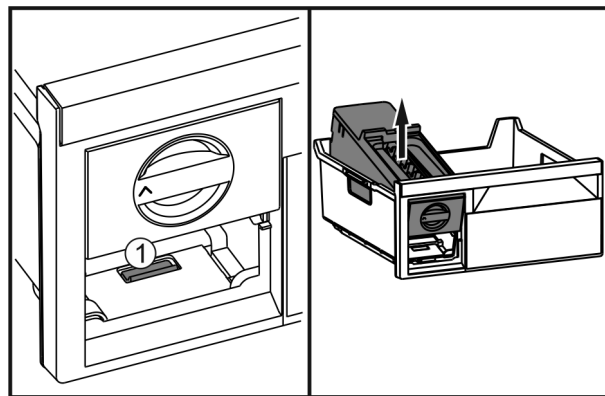

Fig. 47
- ▶ Press the lug Fig. 47 (1), lift up the EasyTwist-Ice at the rear and take it out of the freezer drawer.